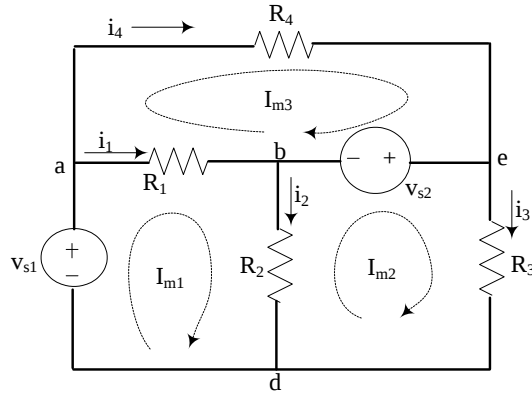

Fig 1.
1. For the network shown in Figure 1 ,